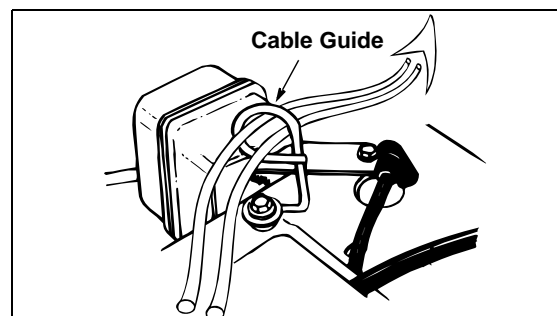

Figure 9
- Slip the cables that run from the handle panel to the chute into the cable guide located on top of the engine. See Figure 9.